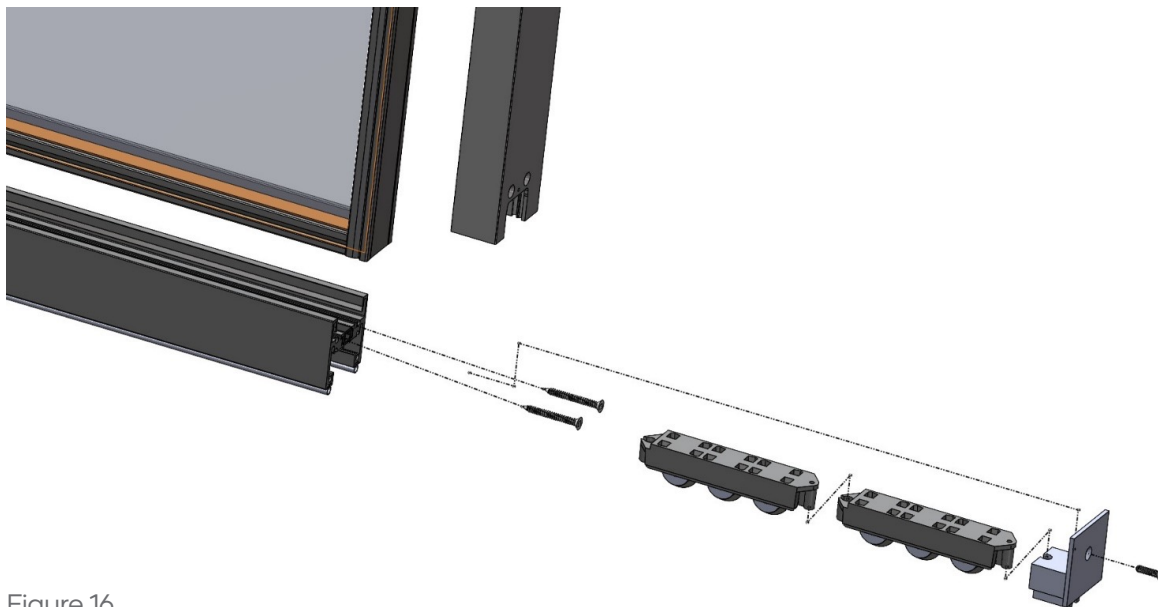

Figure 16
10. Identify the correct quantity of roller assemblies and connect by sliding one (1) roller assembly onto the other. Repeat this step for all required rollers. Once all rollers are linked together, slide the end sweep onto the roller assembly and set roller assemblies in front of panel.
11. Taking care not to scratch or shift the lead panel over, with a pry bar, lift the panel high enough to slide the roller assembly system into place. Ensure that all rollers rest onto the track cap and roll freely. (See Figure 16).